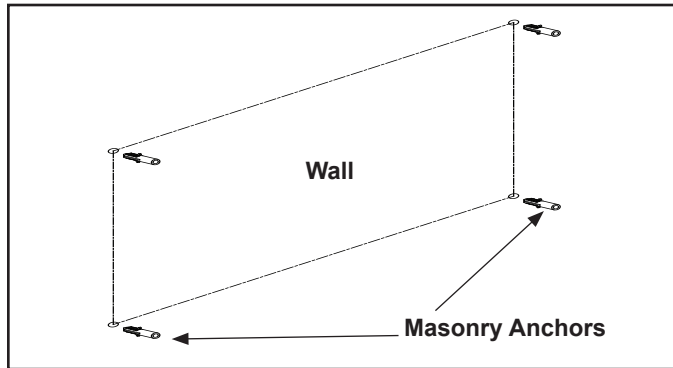
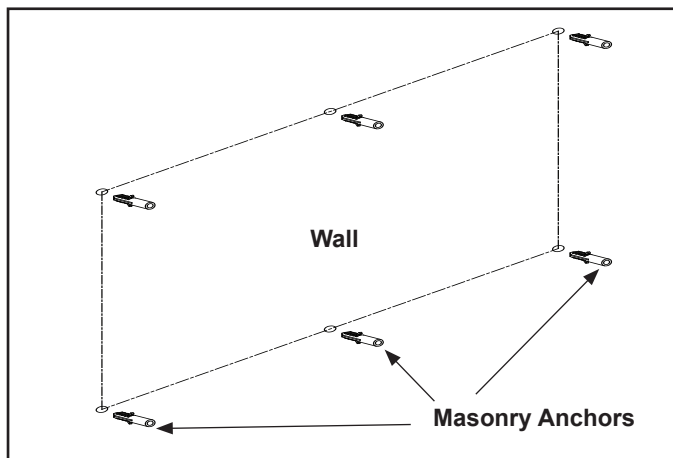
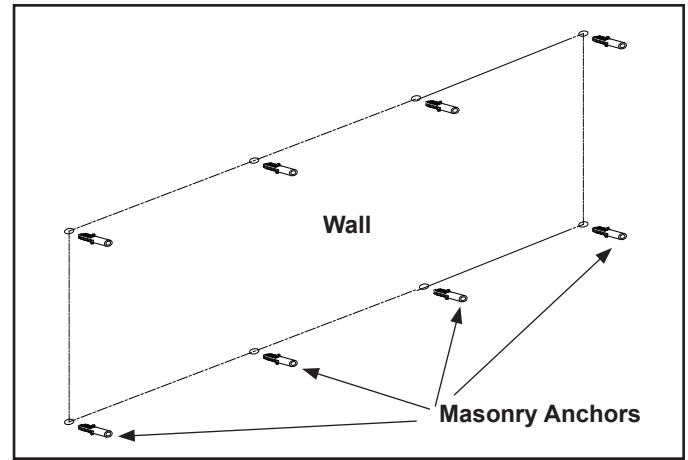
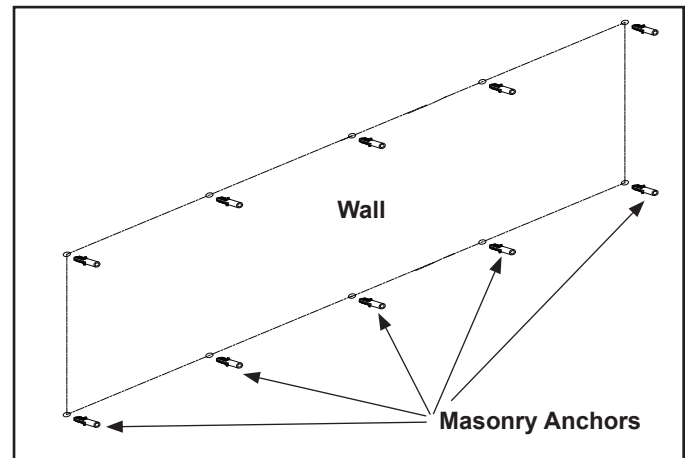

Figure 21 (SF-WM36) Masonry Anchor Placement
Figure 22 (SF-WM58) Masonry Anchor Placement
Figure 23 (SF-WM70) Masonry Anchor Placement
Figure 24 (SF-WM94) Masonry Anchor Placement
- In the marked locations, drill 5/16 in. diameter x 2 in. deep holes. See Figure 21 (SF-WM36), Figure 22 (SF-WM58), Figure 23 (SF-WM70) or Figure 24 (SF-WM94).